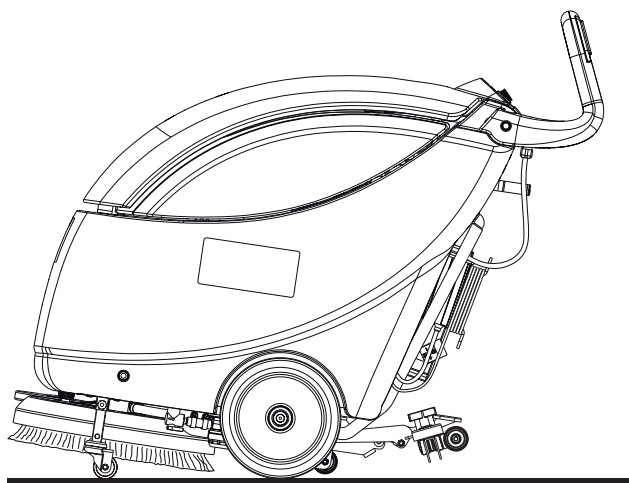

Figure 5
8. Release the brush enabling push-buttons (61).
9. Turn the switch (63) to "0", to turn off the vacuum system motor.
10. Turn the switch (62) to "0", to turn off the brush motor.
11. Engage the positioning pin (24) and activate the machine transport/parking device (23a) to keep the brush/pad-holder lifted (see Fig. 5).
- Turn off the machine by pressing the switches (62) and (63) to "0".
- Lift the squeegee (59).
- Engage the positioning pin (24) and activate the machine transport/parking device (23a) to keep the brush/pad-holder lifted (Fig. 5).
- In order not to drag the brush/pad on the floor and leave wet marks, when finishing working, remove the brush/pad-holder from the deck by using the disengagement procedure (see the next paragraph), then place it on the front holder (43).